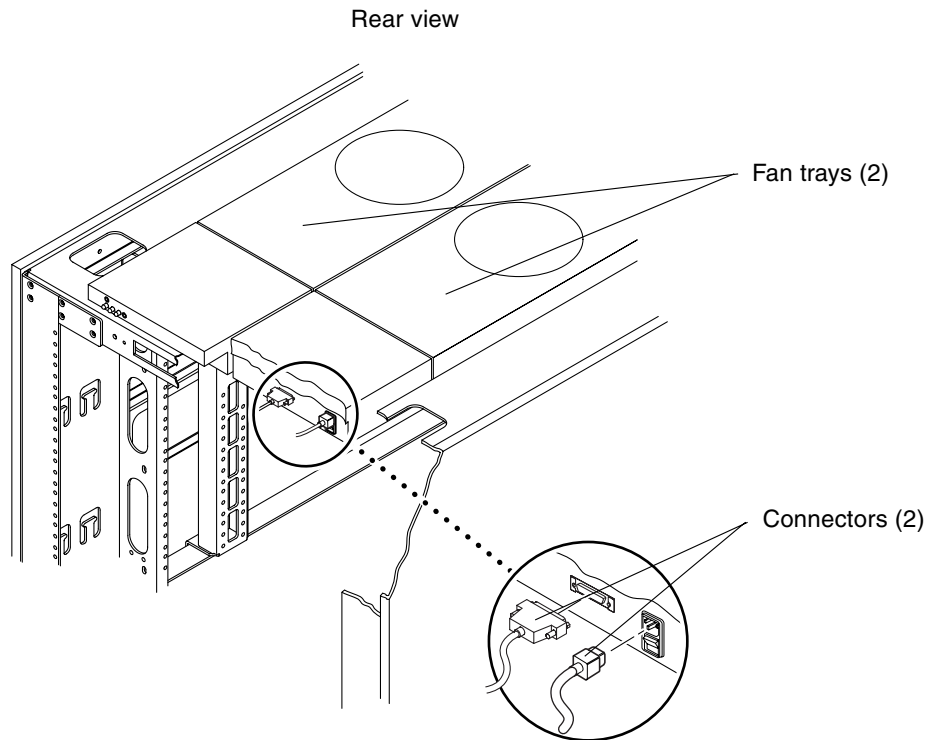

FIGURE 6-8 Cabinet Fan Tray Power Switch and Connectors
1. Ensure that the power switch is set to off (FIGURE 6-8).
3. Disconnect and then remove the two connectors from the rear of the fan tray (FIGURE 6-8).